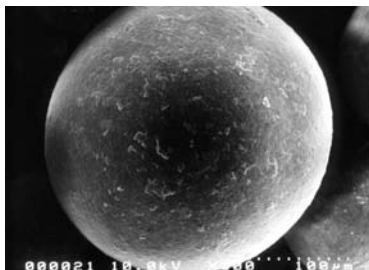

Fig.1 SEM photograph of CELLYARD beads
- 1) The CELLYARD beads (Fig.1) is composed of microspheres that hydroxyapatite $[\text{Ca}_{10}(\text{PO}_4)_6(\text{OH})_2]$ fine particles cover the surface of the nylon particles of average particle size $200 \mu\text{m}$. Hydroxyapatite is one of calcium phosphate system compounds , has excellent biocompatibility , and has already been used as artificial bone , bone prosthetic material , and so on .